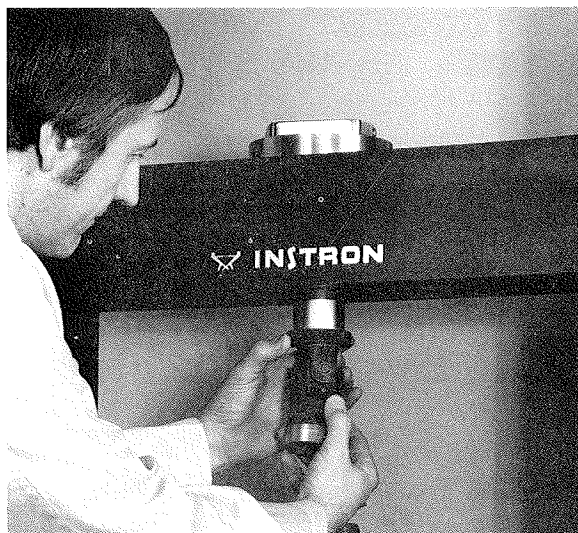

Figure 5-11. Attaching a Self-Aligning Coupling to a Tension Load Cell
c. Attach self-aligning coupling to load cell spindle (figure 5-11). If testing is to be done above moving crosshead, remove grip adapter from baseplate and install in position on top of moving crosshead.